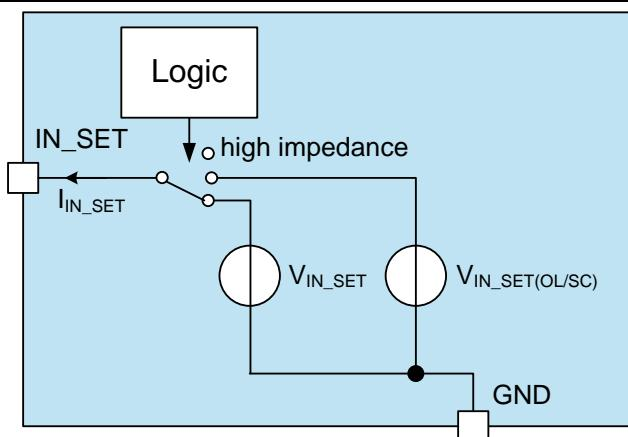

Figure 13 IN\_SET pin of devices with ST pin (TLD1121,1124,1125,1313,1314,1311,1315,2311,2314)
- For devices with ST (status) pin, please see Figure 13 for the block diagram of the IN\_SET pin. The 3 states of the IN\_SET pin are: